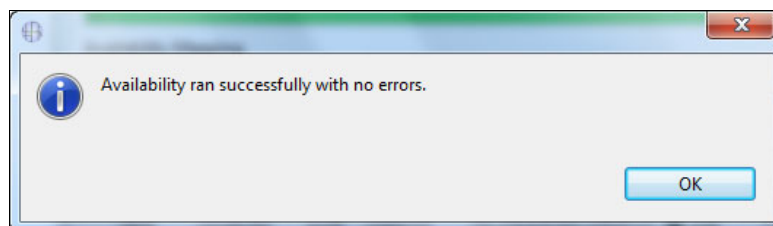

Figure 7-43 CMT - Availability ran successfully with no errors message
6. After the CHPID Mapping Tool resets the CHPIDs, it displays the result of the process (Figure 7-43). Click **OK**.